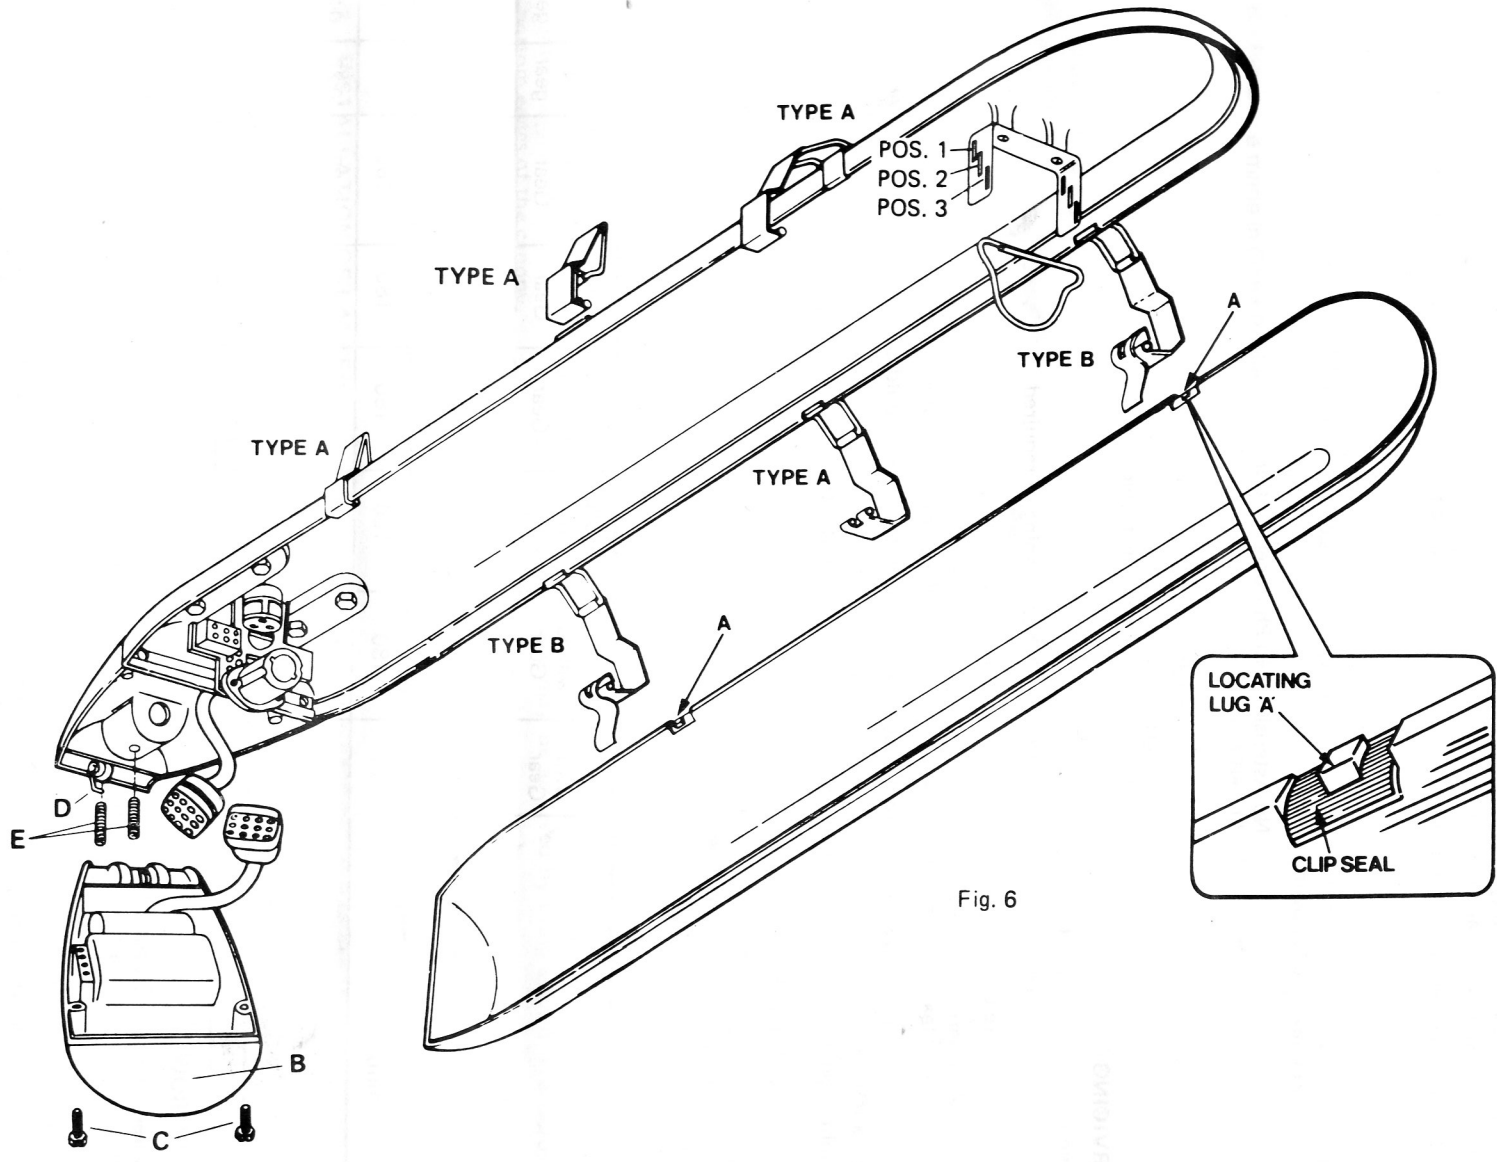

Fig. 6
5. INSTALLATION OF LANTERNS WITH INTEGRAL CONTROL GEAR (FIG. 6).